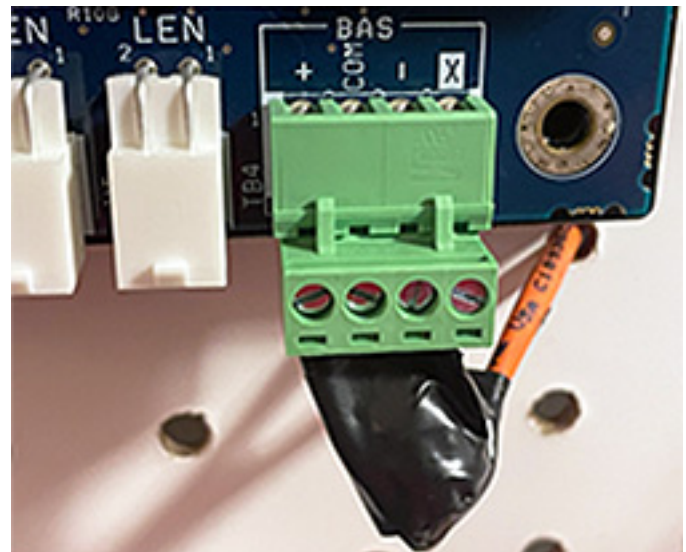

Fig. 6 — Correct Connections — Best Practice
- Best practice is to tape wires up to the BAS plug to prevent contact with any metal. See Fig. 6.